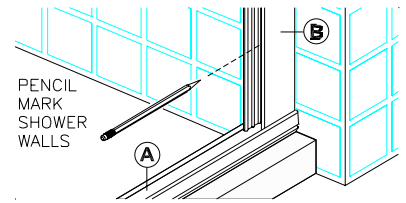

figure 2
3. Place Wall Jamb (B) on to ends of Sill (A) and up against shower walls as shown in figure 2. Plumb the Jamb, then pencil mark their installation holes locations on the shower walls (3 per jamb). Remove Wall Jamb. Using a 3/16" masonry bit, drill 1-1/4" deep installation holes in locations previously marked. Insert Plastic Screw Anchors (I) into holes.